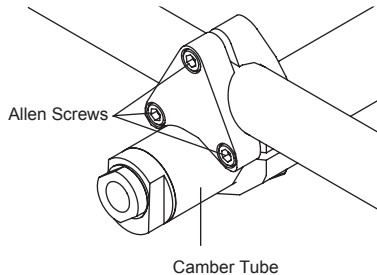

Figure 114
3. Loosen, but do not remove, the Allen Screws in the camber tube clamps as shown in Figure 114. **Note:** Figure 114 depicts the camber tube clamps on the TR. If you have a different model, locate the corresponding Allen Screws that secure the camber tube clamp to the frame and the camber tube to the camber tube clamp.